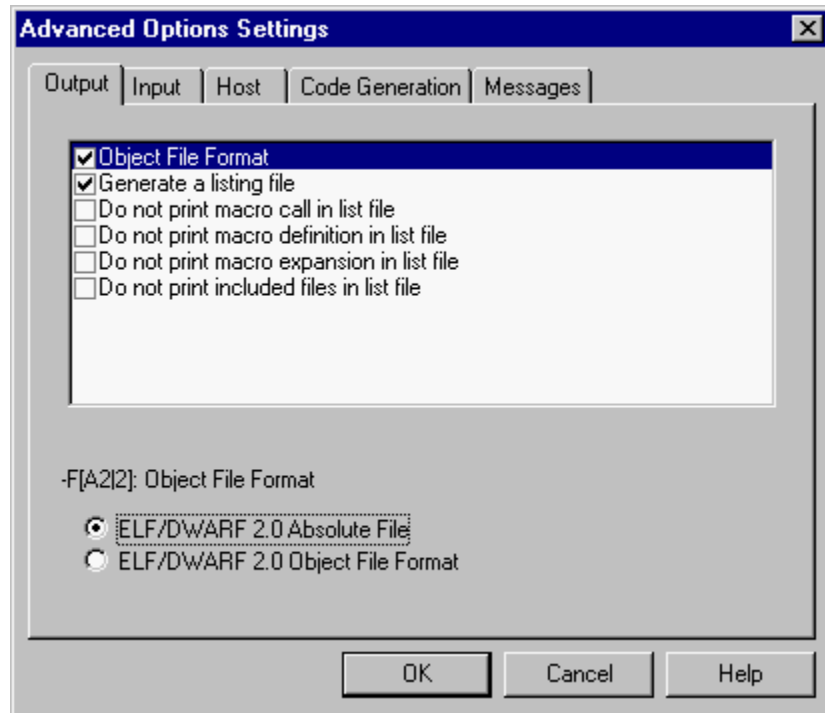

Figure 11-3. Selecting the Object File Format
- In the **Output** folder, select the check box in front of the label **Object File Format**. More information is displayed at the bottom of the dialog, as shown in **Figure 11-3**.